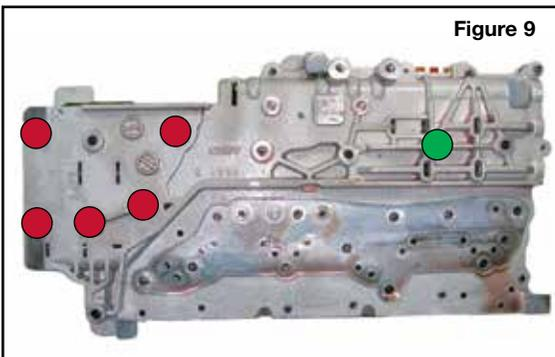

Figure 9
- g. Remove the five 7mm head bolts and single 10mm head bolt. The valve body halves may now be separated from each other (**Figure 9**).